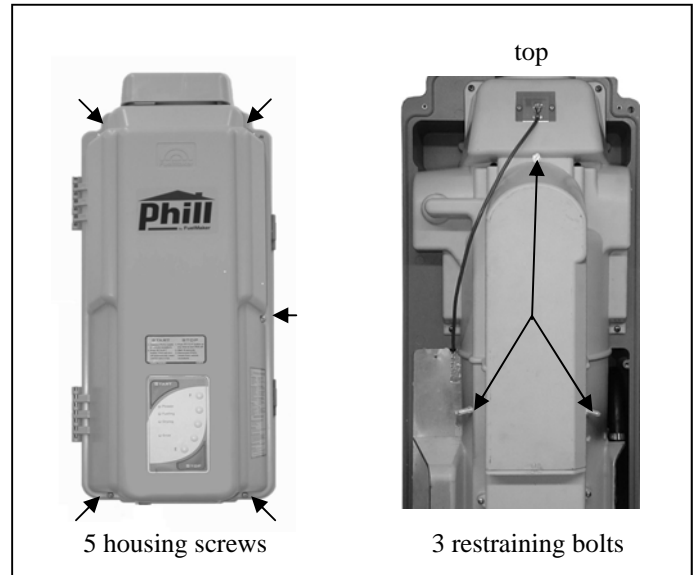

Figure 5 Restraining Bolts
6. Open Phill's front housing by removing the 5 screws and loosen the 3 restraining bolts. (see Figure 5)